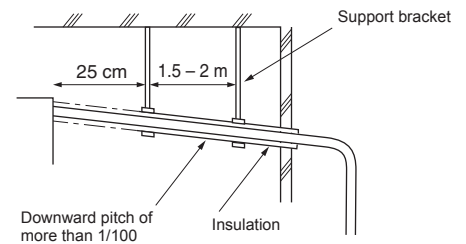
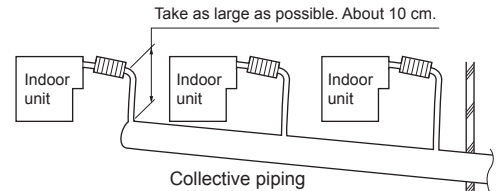
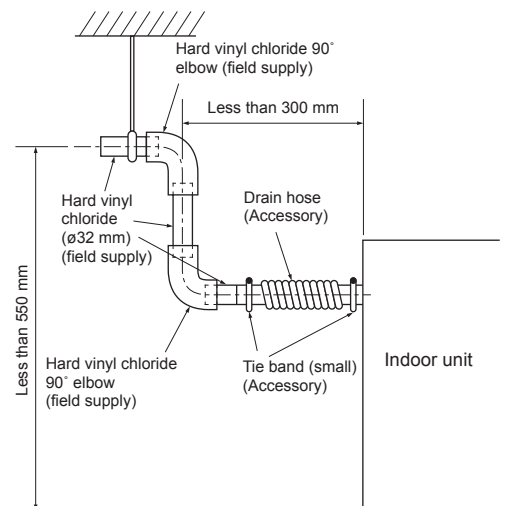

Fig. 5-1
Fig. 5-2
Fig. 5-3
- (1) Ensure that the drain piping is downward (pitch of more than 1/100) to the outdoor (discharge) side. Do not provide any trap or irregularity on the way. (Fig. 5-1)
- (2) Ensure that any cross-wise drain piping is less than 20 meters (excluding the difference of elevation). If the drain piping is long, provide support bracket to prevent it from waving. Never provide any air vent pipe. Otherwise drain may be ejected.
- (3) Use a hard vinyl chloride pipe $\phi 32$ mm (1-1/4 inch) for drain piping.
- (4) Ensure that collected pipes are 10 cm lower than the unit body's drain port. (Fig. 5-2)
- (5) Do not provide any odor trap at the drain discharge port.
- (6) Put the end of the drain piping in a position where no odor is generated.
- (7) Do not insert the end of the drain piping into any sewer where sulfuric gases are generated.
- (8) The intake of the drain piping can be made 55 cm higher than the Indoor unit. If there are some obstacles under the ceiling, use elbows to make it at least height according to the site. (Fig. 5-3)
- (9) Be sure to use the supplied drain hose (Accessory).